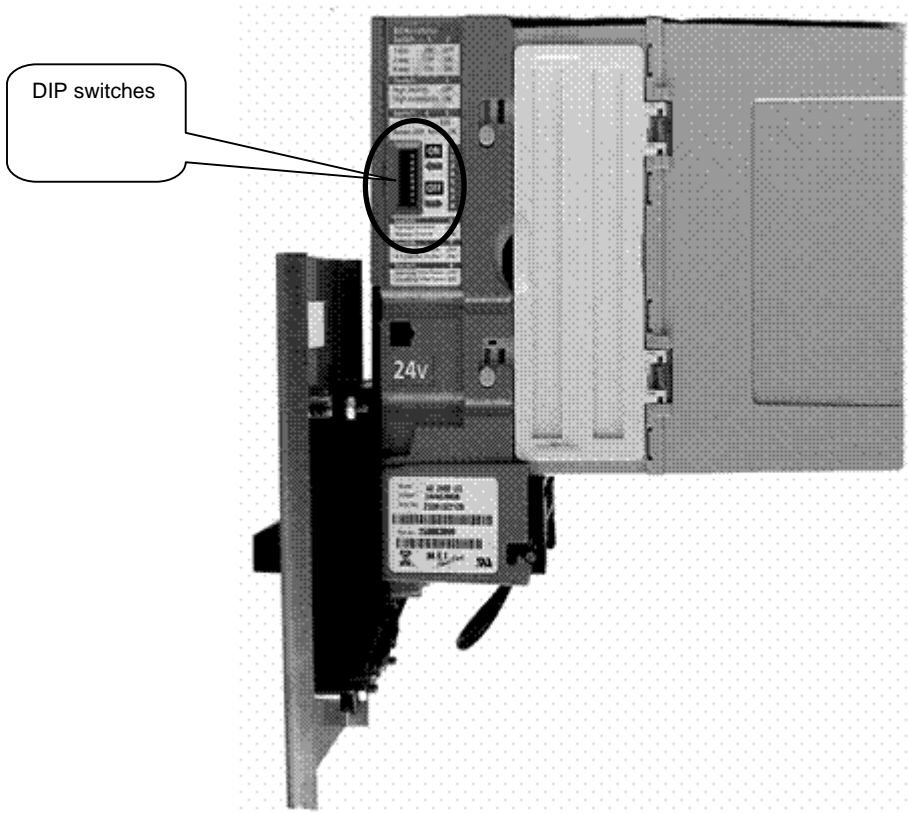

Figure 12. Mars DIP Switches
2. Referring to Table 10, use a small flat-head screwdriver to set the DIP switches for the options you prefer. (See Figure 12 for DIP switch location.)